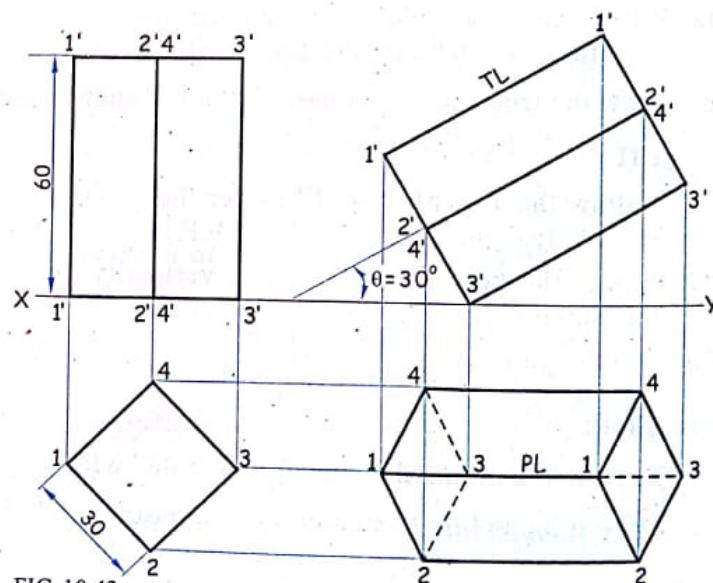

FIG. 10.43
**Solution :** Refer figure 10.43.